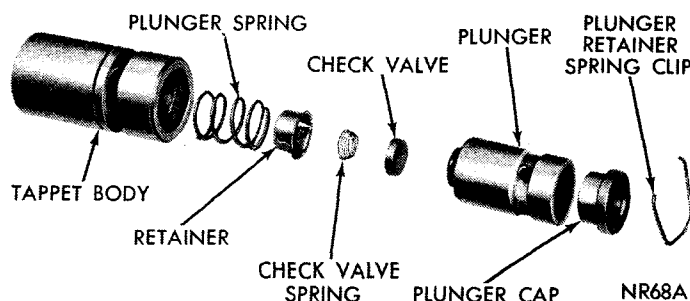

Fig. 16—Hydraulic Tappet Assembly (Disassembled View)
Disassembly (Fig. 16)
- (1) Clean all tappet parts in a solvent that will remove all varnish and carbon.
- (2) Replace tappets that are unfit for further service with new assemblies.
- (3) If plunger shows signs of scoring or wear and valve is pitted, or if valve seat on end of plunger indicates any condition that would prevent valve from seating, install a new tappet assembly.
- (4) Assemble tappets (Fig. 16).